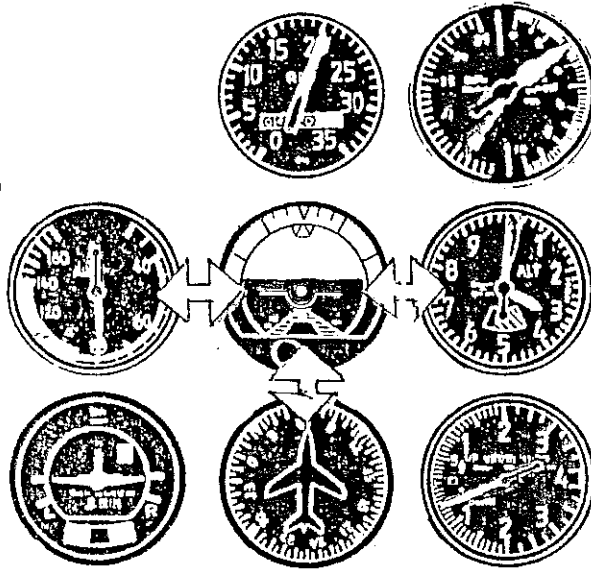

Fig 19.6 Descending
- * Once the attitude is selected and the RPM is correctly adjusted, scan ASI, AH and DI (Fig 19.6). The rate of descent will be about 500ft/min.